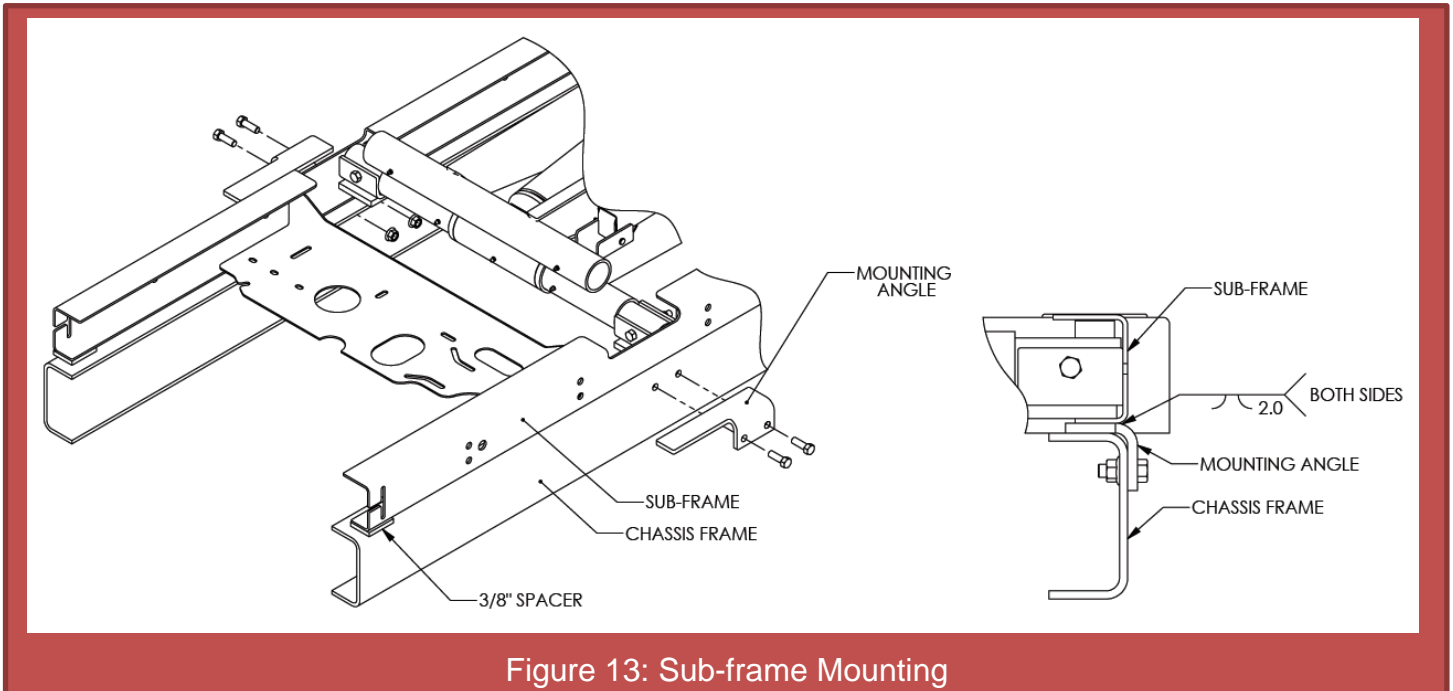

Figure 13: Sub-frame Mounting
2. Locate the ideal mounting angle location along the chassis frame while keeping within the guidelines shown in (**Figure 13**). Ensure that the weld from the subframe to the mounting angle will be positioned directly below the saddle tube.
3. Secure each mounting angle to the truck frame by drilling two  $17/32$ " diameter holes and bolting the mounting angles to the truck frame using two  $1/2$ " GR8 bolts and nuts (**Figure 13**).
4. Weld each mounting angle to the sub-frame rail, keeping within the guidelines shown in (**Figure 13**). Do not weld the mounting angles to the chassis frame.